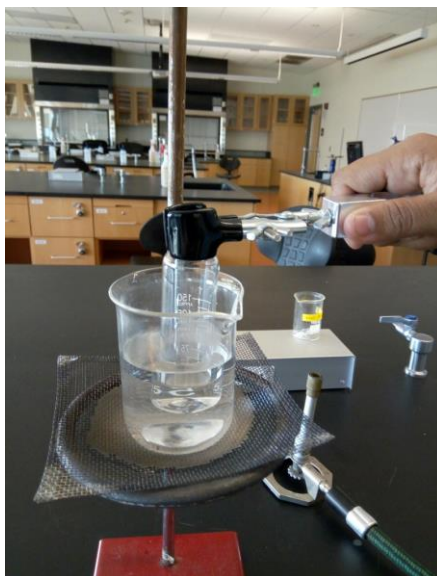

Figure 2. Melting your sample using a clamp.
4. Once the temperature of the water bath has reached 70°C, melt the stearic acid by immersing the 20 x 95 mm vial with the fatty acid sample in the hot water and moving the vial in circular motion. (A clamp would be helpful for this step as in Figure 2).